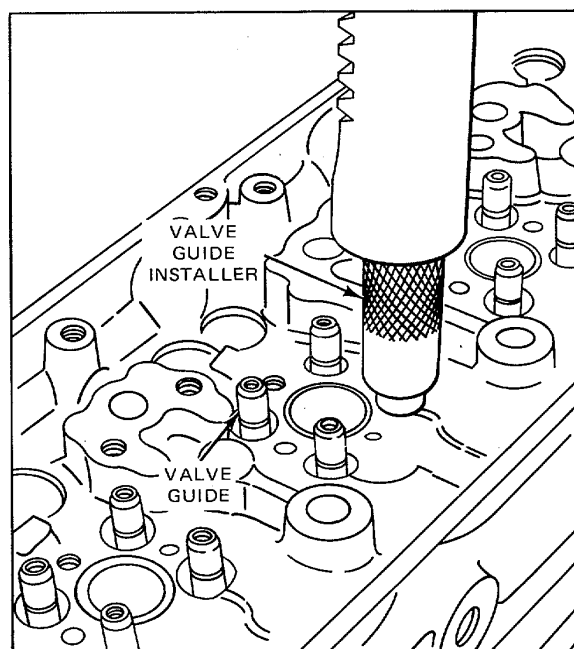

Figure 8. Installing Valve Guide
3. Position the valve guide squarely in the bore in the cylinder head and press the installing tool gently to start the guide in place (Fig. 8). Then press the guide in until the tool contacts the cylinder head (the bottom of the counterbore in the four-valve cylinder head).